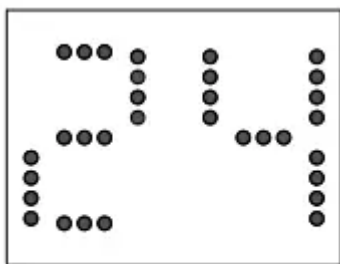

Fig.1
1. Extend either side of the hose (Fig.1)
Before change. in cool mode. the screen display like Fig.1.